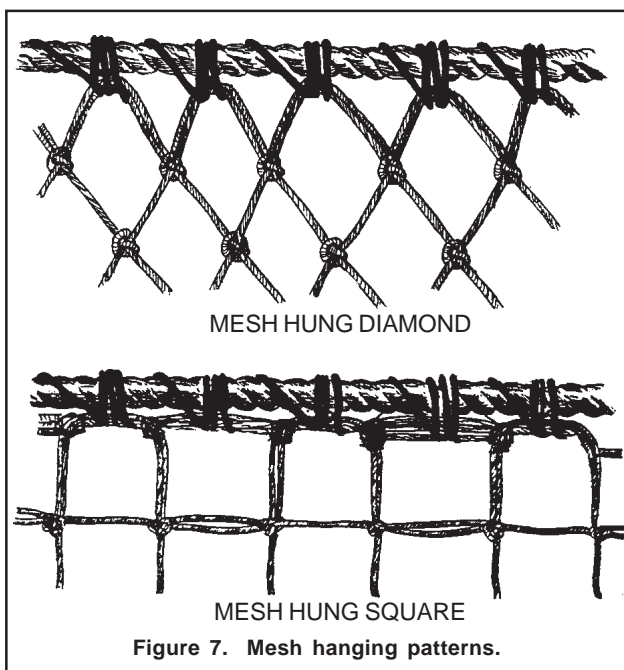

Figure 7. Mesh hanging patterns.
- 1 = Diamond (see Figure 7).
- 2 = Square (see Figure 7).